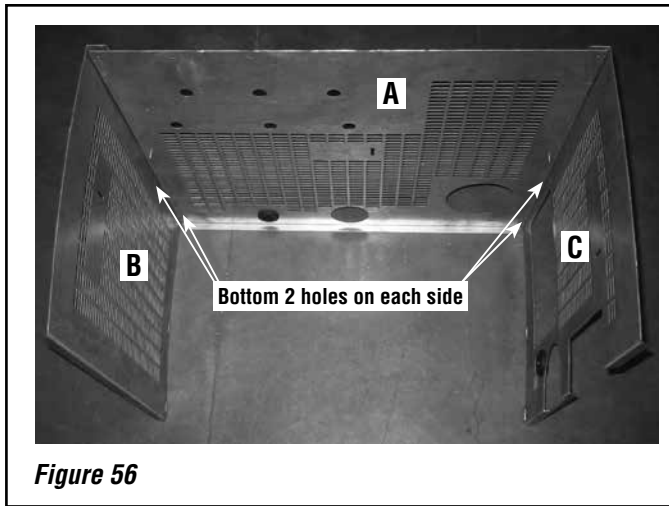

Figure 56
- Assemble the perimeter (see **Figure 56**) - Using only the bottom 2 holes on each side, screw the left side panel (B) and the right side panel (C) to the back panel (A).**